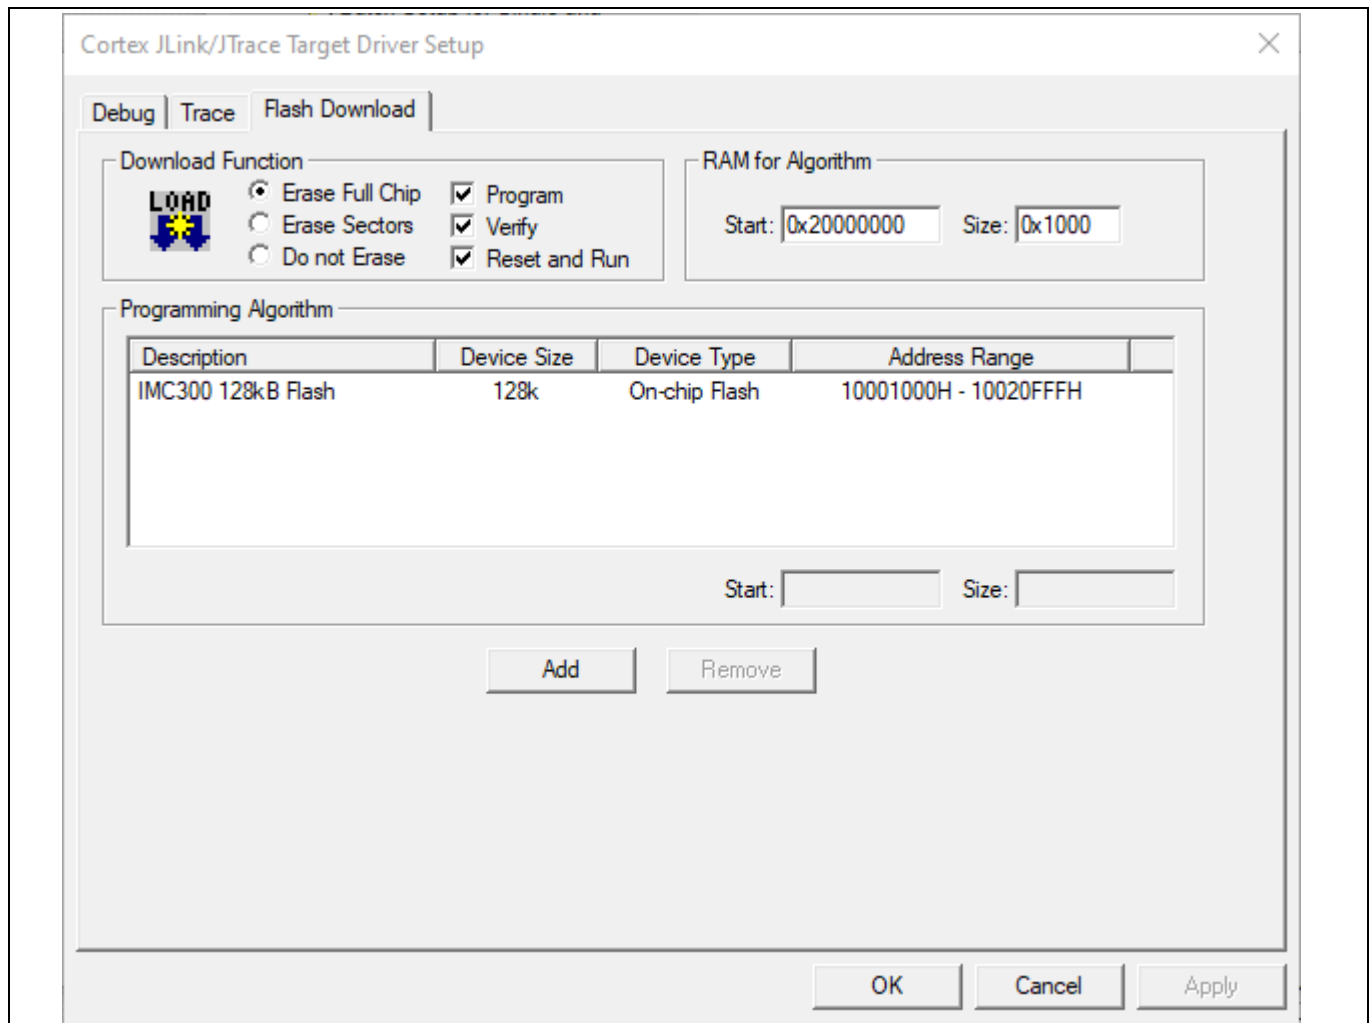

Figure 9 Keil µVision® IDE JLink/JTrace Flash Download Tab
- 6) Go to the “Flash Download” tab and select settings that are appropriate for your application as shown in Figure 9.